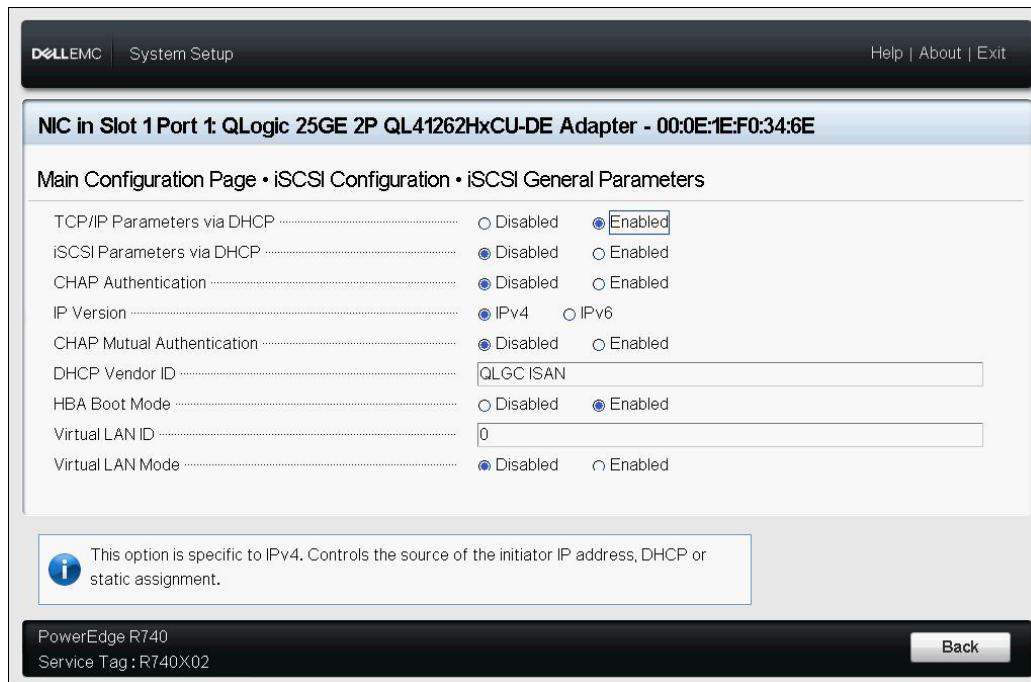

Figure 9-8. System Setup: iSCSI General Parameters
3. On the iSCSI General Parameters page (Figure 9-8), press the UP ARROW and DOWN ARROW keys to select a parameter, and then press the ENTER key to select or input the following values:
- The label will change to **IPv6** or **IPv4** (default) based on the IP version set on the iSCSI General Parameters page (Figure 9-8 on page 117).